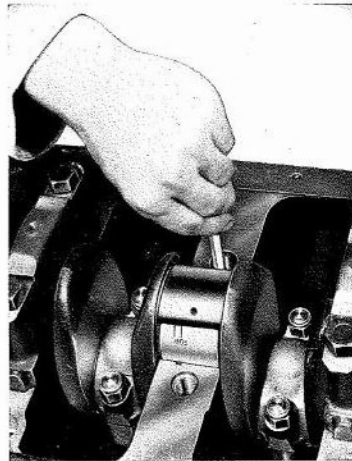

Fig. L.2
3. Remove the top half of the bearing by rotating it on the crankshaft applying a suitable soft tool, (e.g. wood), to the side opposite the locating tongue. See Fig. L.2. The main bearing locating recesses are machined in the cylinder block on the camshaft side.